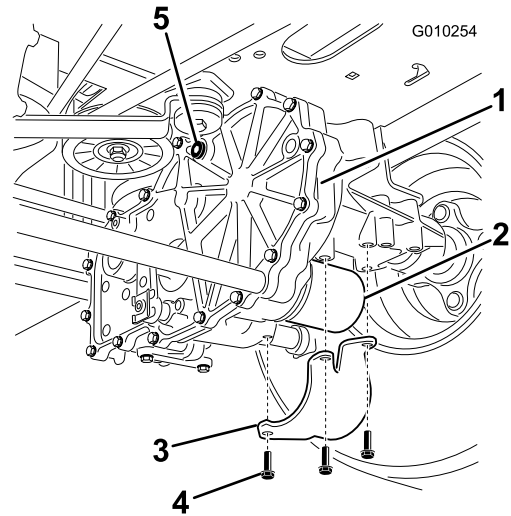

Figure 47
3. Locate the filter and guards on each transaxle drive system (Figure 47).